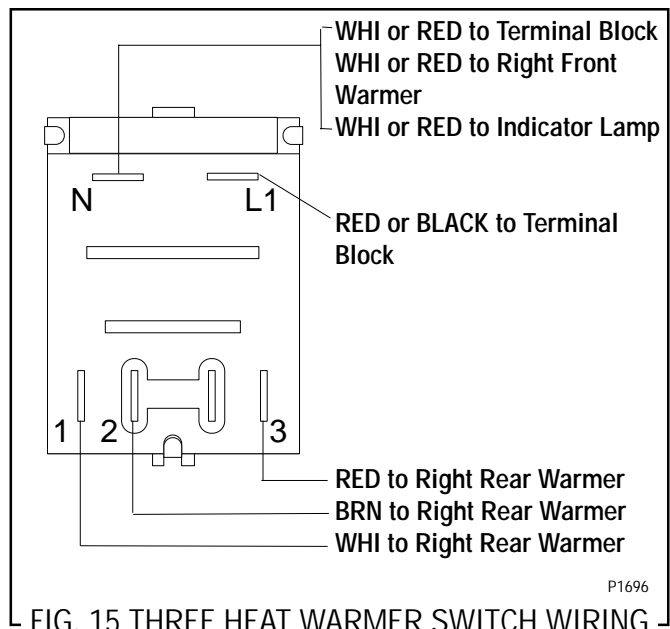

FIG. 15 THREE HEAT WARMER SWITCH WIRING
4. Refer to FIG. 15 when reconnecting the wires.